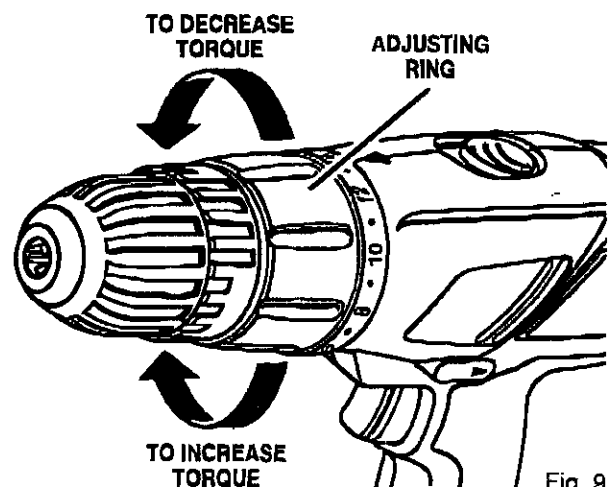

Fig. 9
- Identify the twenty four torque indicator settings located on the front of your drill. See Figure 9.